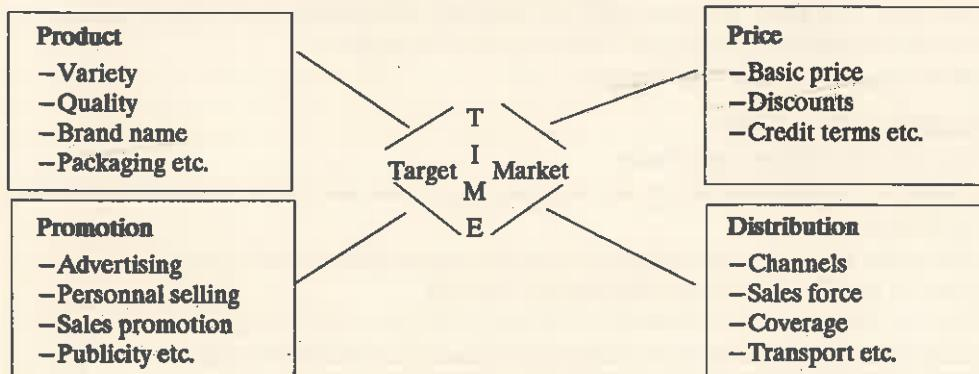

Fig. 31.8. The Marketing Mix.
- A cigarette company may elect to : (a) emphasize T.V. and radio advertising, (b) distribute through high quality tobacco shops, (c) charge a premium price, (d) sell in 60 mm lengths, and (e) feature an air-tight plastic package. This *mix* is more realistic in the sense that most firms confront a relatively large number of controllable competitive variables (as listed in Fig. 31.8.)